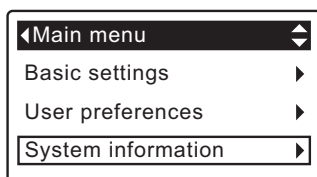

FIG. 53
2. Press the DOWN ▼ button to scroll through the menu options until **System information** is highlighted (See Figure 53).